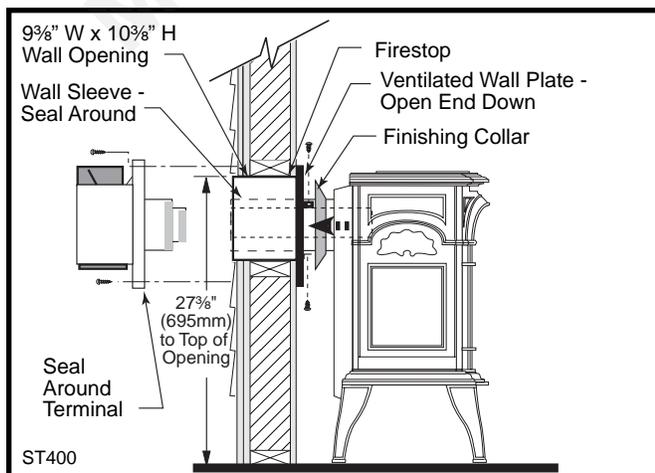

**Fig. 23** Apply sealant to the starter pipe, and fasten to stove with Phillips screws.
- Run a bead of sealant beneath the pipe bead and attach to the stove using three 1/4-20 x 3/8" phillips screws provided in the parts bag. (Fig. 23)